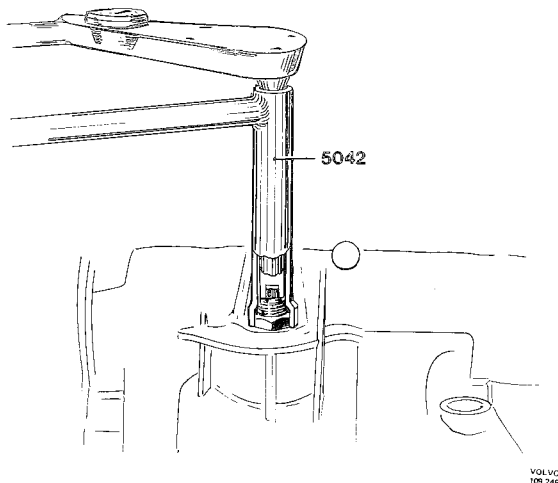

Fig. 4-69. Rear brake band adjustment
1. Connect a torque wrench to the inner sleeve on tool 5042 and install the tool on the screw and nut as shown in Fig. 4-69.